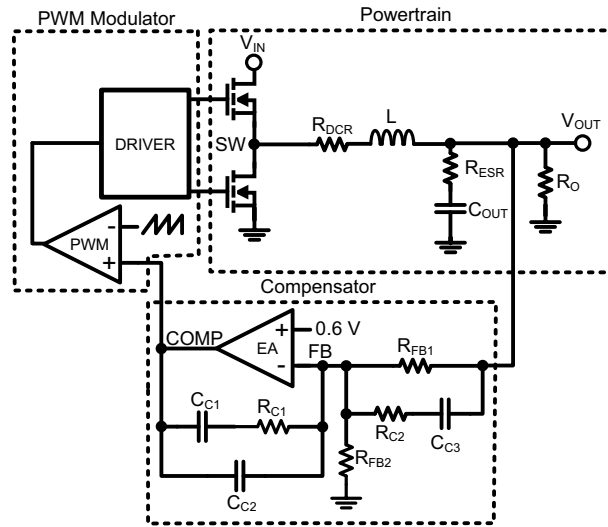

Figure 35. Control Loop Schematic Diagram
There are three main blocks of a voltage-mode buck switcher that the power supply designer needs to consider when designing the control system: power train, PWM modulator, and compensator. A diagram representing the control loop is shown in Figure 35.
The power train consists of the filter inductor (L) with DCR (R_{DCR}), output capacitor (C_{OUT}) with ESR (effective series resistance R_{ESR}), and effective load resistance (R_O). The error amplifier (EA) regulates the feedback (FB) voltage to 0.6V. The passive compensation components around the error amplifier establish system stability. Type-III compensation is shown in Figure 35. The PWM modulator establishes the duty cycle command by comparing the error amplifier output (COMP) with an internally generated ramp set at the switching frequency.
The complex poles (f_{LC}) created by the filter inductor and output capacitor cause a 180° phase shift as seen in Figure 36. The phase is boosted back up to -90° by virtue of the output capacitor ESR zero. The phase shift caused by the complex poles must be compensated to stabilize the loop response. The compensation network shown around the error amplifier in Figure 35 creates two poles, two zeros and a pole at the origin. Placing these poles and zeros at the correct frequencies optimizes the loop response. The compensator transfer function is: